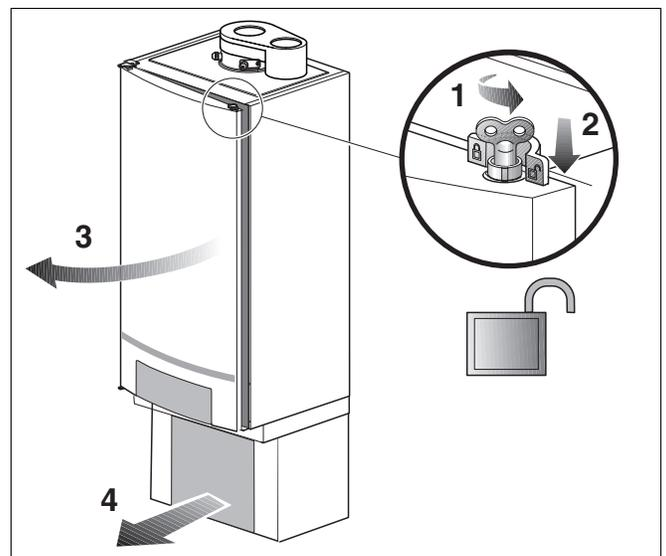

Fig. 47 Opening the boiler door
- Turn the vent key a quarter rotation to undo the boiler door lock (fig. 47, see detailed picture).
- Push the fastener down (fig. 47) and open the boiler door.
- Remove the insulation cover of the pump group (fig. 47).
- Turn the vent key through a quarter rotation to undo the boiler door lock (fig. 47, see detailed picture, page 47).